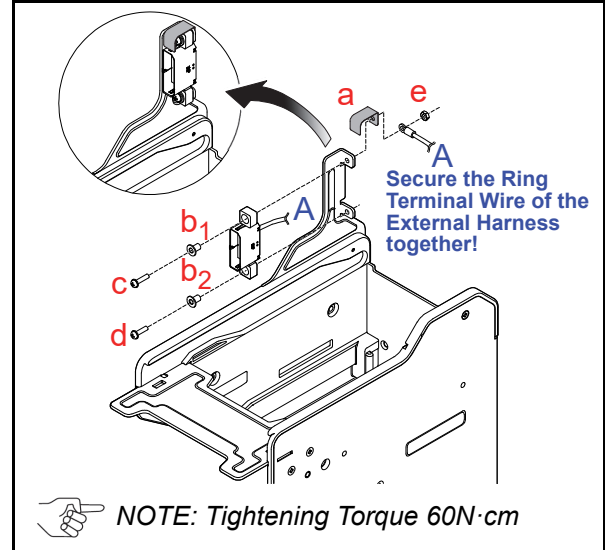

Figure 5 External Harness Installation
2. Secure the External Harness to the Frame Grounding Plate (FG PLT) (Figure 5 a) using the two (2) Floating Collars (Figure 5 b), the single (1) M2.6x12 W Washer Screw (Figure 5 c), the single (1) M2.6x10 W Washer Screw (Figure 5 d), the single Ring Terminal Wire (Figure 5 A) and the single (1) M2.6 Nylon Nut (Figure 5 e).